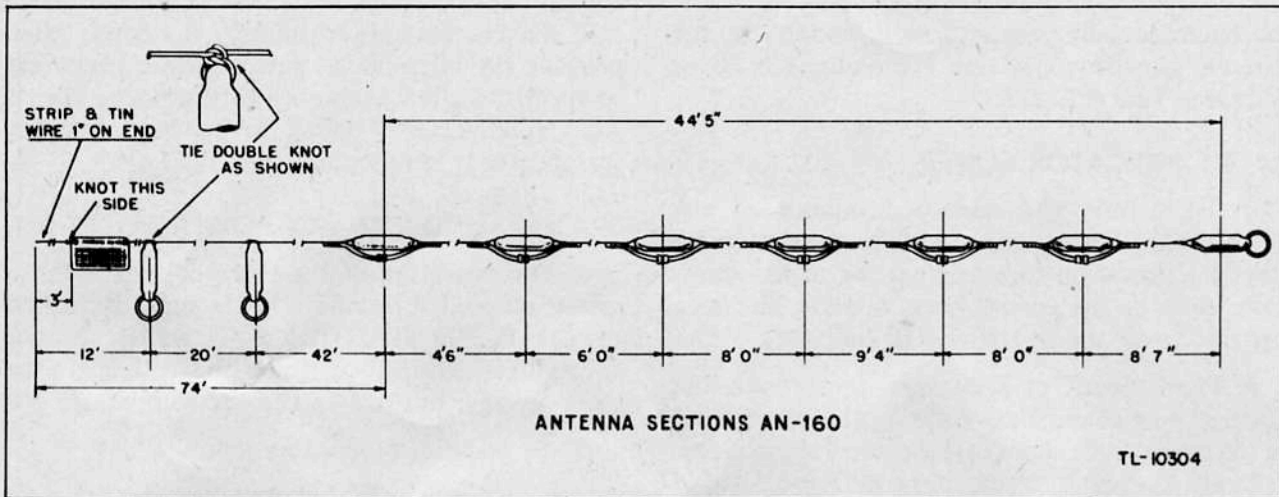

Figure 20. Antenna AN-160, dimensions.
*b.* The antenna has been divided into a number of sections which may quickly be connected or disconnected by means of jumpers with plug and jack connectors (fig. 20).